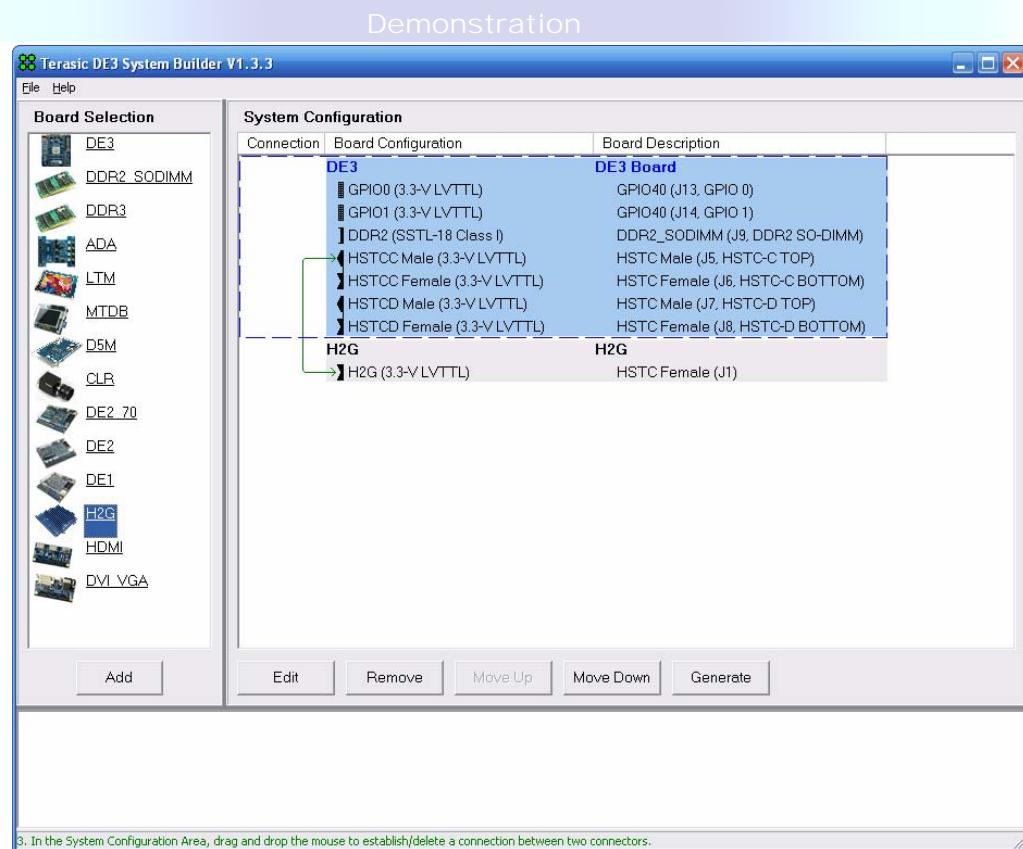

Figure 4.3 DE3\_System\_Builder setting for THDB-H2G and DE3 board
2. After connection setup is completed, users can use DE3\_System\_builder to create a Quartus II project for this connection. As shown in Figure 4.3, users can add THDB\_H2G board and DE3 board in the system area and establish a connection in between. A Quartus II project will be generated and located under <DE3\_System\_builder Installed Path>/ generated/ after “Finish” button is pressed. Please refer to Chapter 4 of DE3\_usermanual for more information about how to use DE3\_System\_builder.